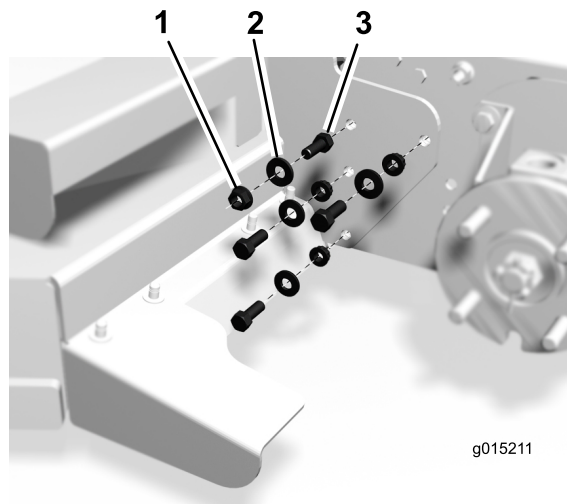

Figure 3
4. Install 8 bolts (3/8 x 1 inch), curved washers, and flange nuts to secure the rotary cutting deck to the power unit. Note the bolt orientation in Figure 3. Ensure that the engine deck is parallel to the mower deck +/- 0.5 degrees before tightening the fixing bolts.